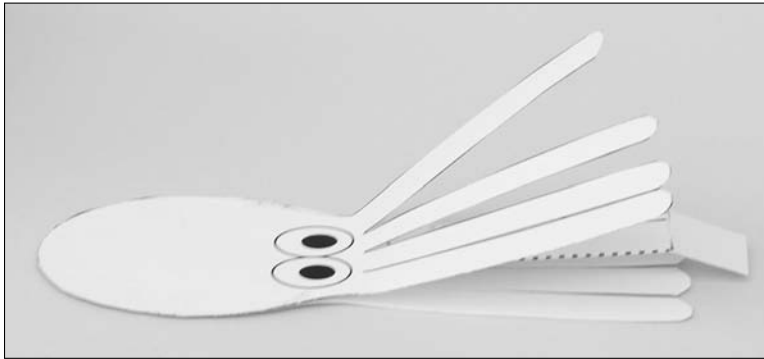

Figure 10-9:
12. **Glue the front and back of the octopus into place on the body center, as Figure 10-9 shows.**